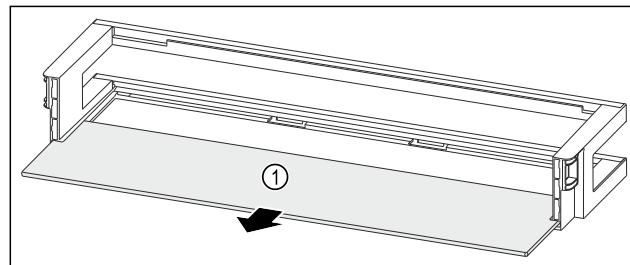

Fig. 91 Door rack with shelf
- Remove the shelf Fig. 91 (1).